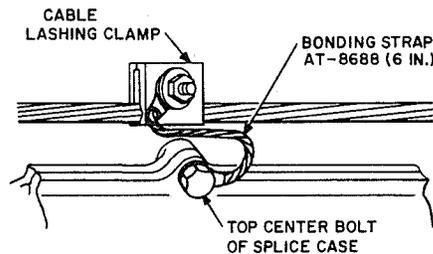

Fig. 20—Bonded Splice Case
6.01 Bond the splice closure to strand as shown in Fig. 20.